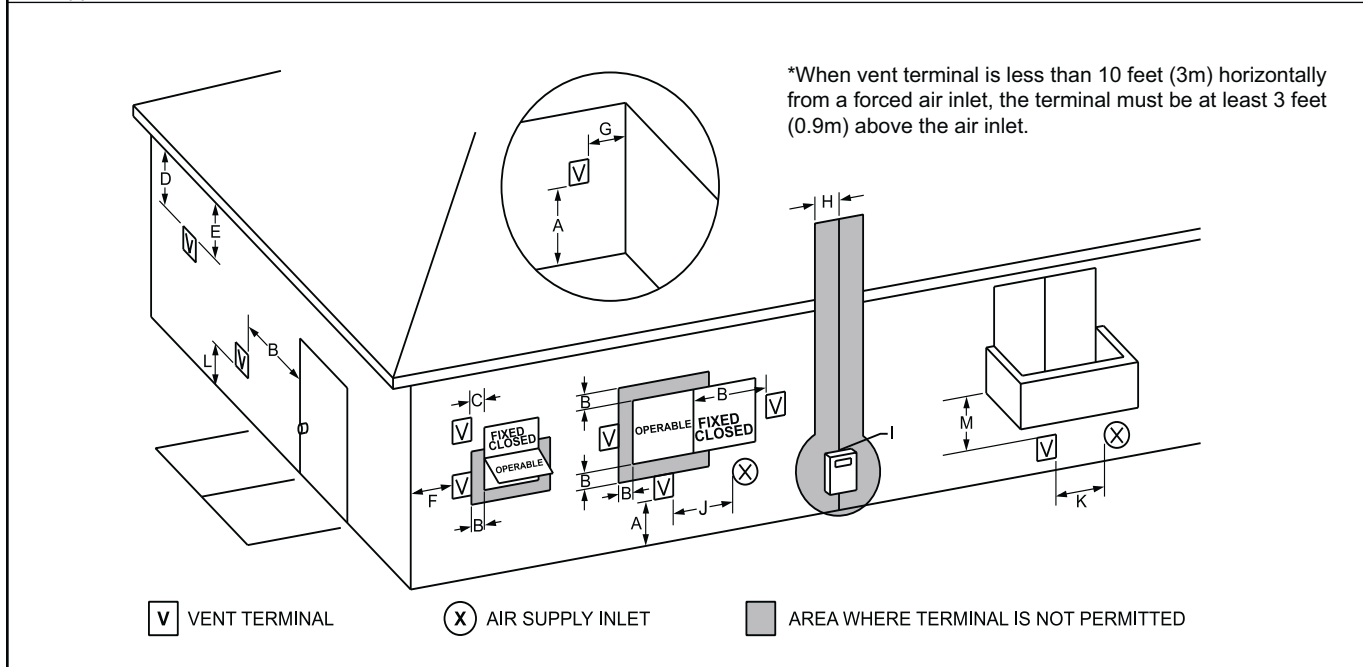

Figure 3. Combustion Air and Vent Through Side Wall.
4. If the Brute Magnum is side-wall vented to the same wall, locate the vent terminal at least 3 feet (0.9m) horizontally from the combustion air terminal, and locate the vent terminal at least 1 foot (0.3m) above the combustion air terminal (see Figure 3).